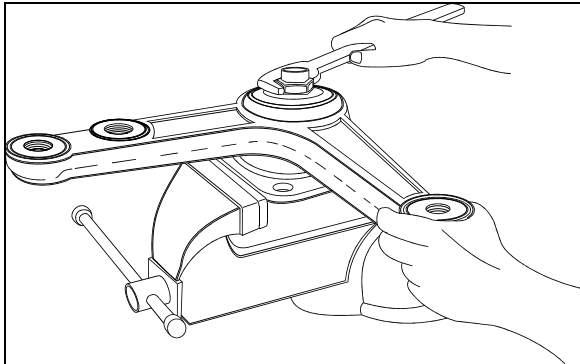

FIGURE 25: BELL CRANK 16044
3. Install bell crank or idler arm onto its mounting spindle, while holding the bell crank or idler arm, slide on the bearing assembly, thrust washer and secure using nut. (Fig. 25).